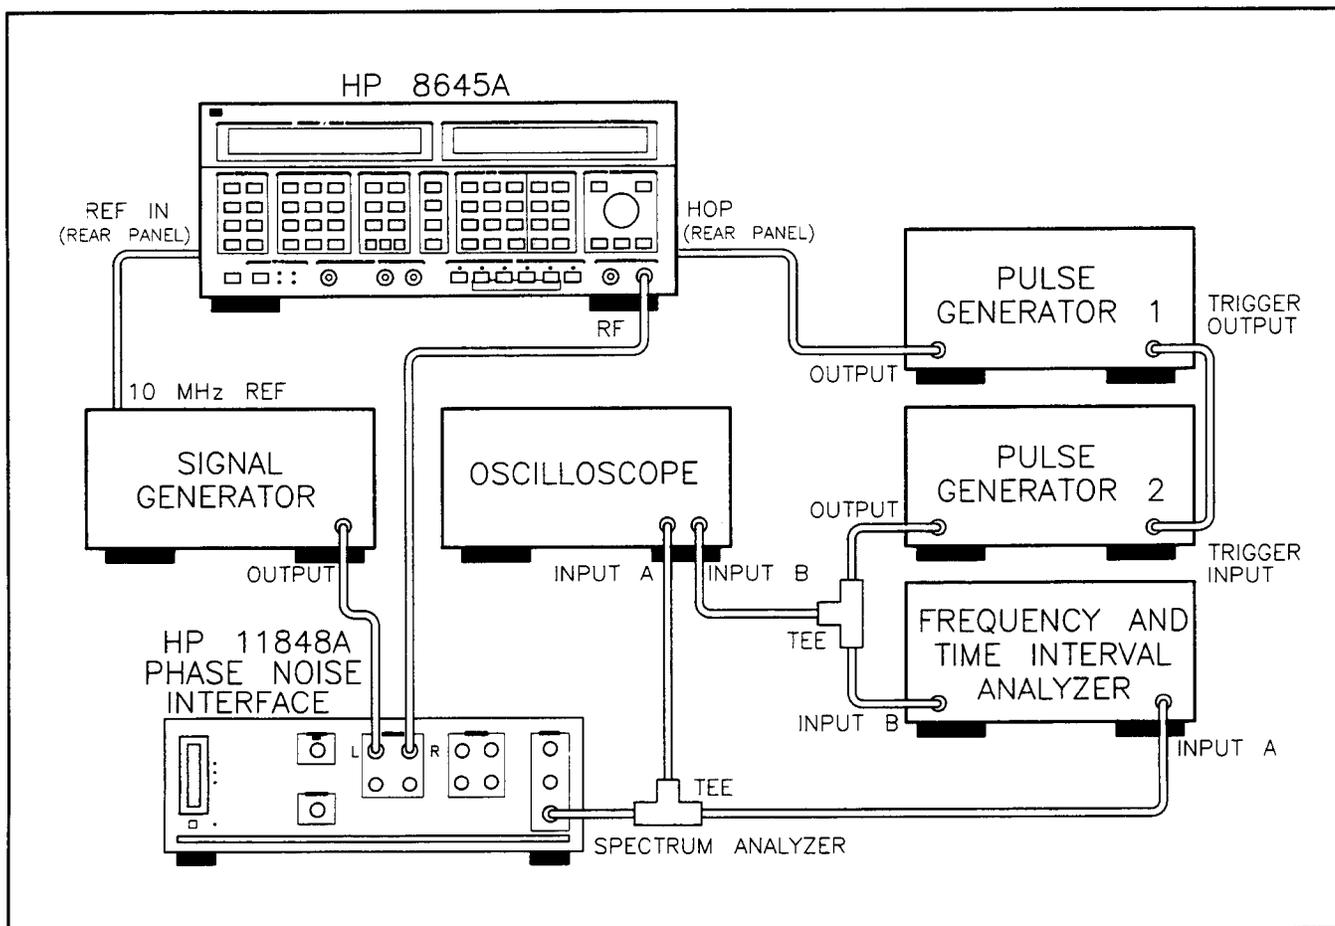

Figure 3-16. Fast Hop Switching Test Setup
1. Connect the equipment as shown in figure 3-16.